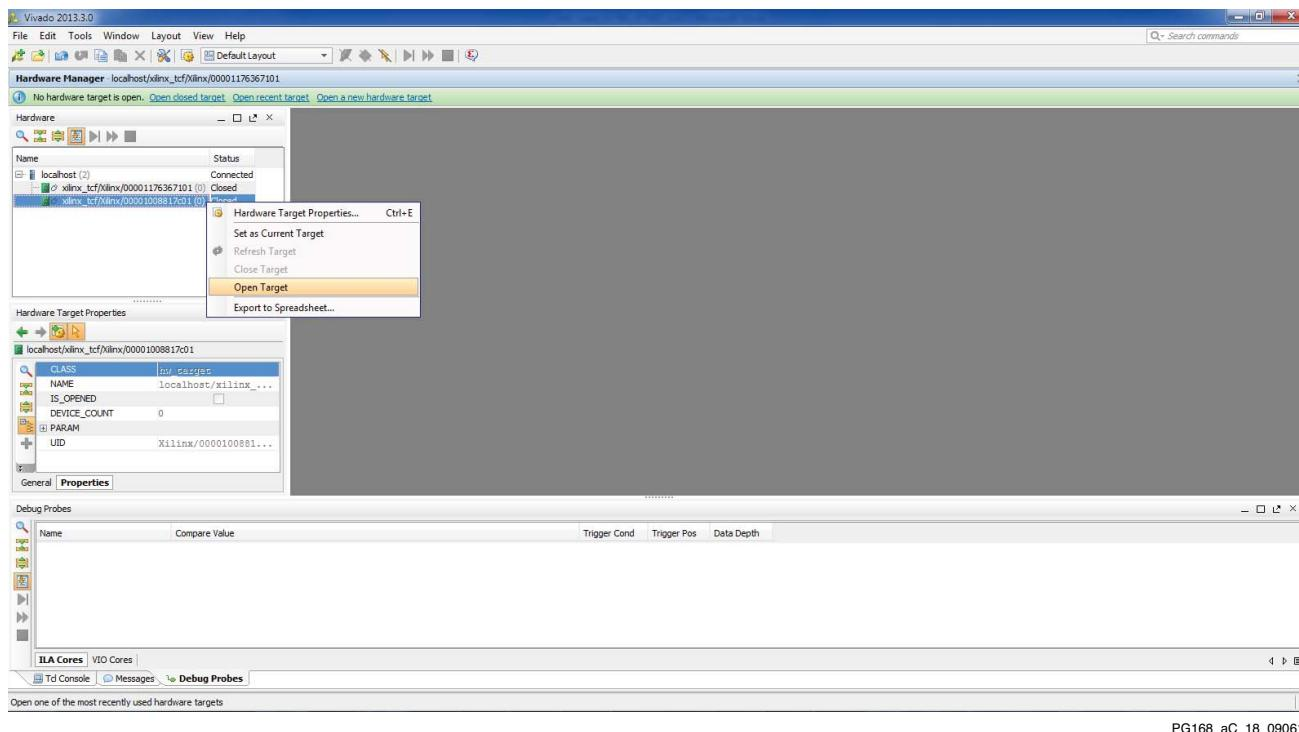

Figure C-18: Open Target
21. To program board 2, select the second device, right-click the device, and select **Open Target**, as shown in Figure C-18.